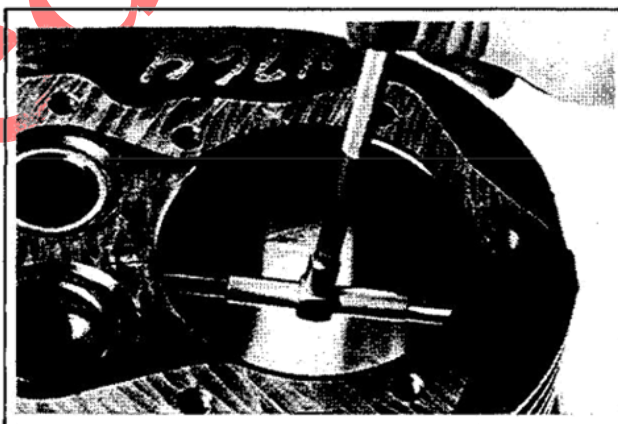

Figure 10-3. Measuring Cylinder Bore.
4. After resizing, check the bore for roundness, taper, and size. Use an inside micrometer, telescoping gauge, or bore gauge to take measurements (refer to Figure 10-3). The measurements should be taken at three locations in the cylinder—at the top, middle, and bottom. Two measurements should be taken (perpendicular to each other) at each of the three locations.